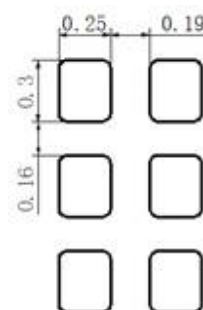
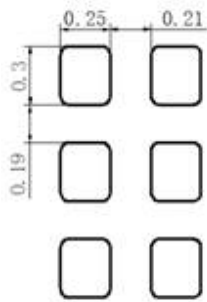

Figure 5: Recommended land pattern (unit: mm)
Figure 6: Recommended stencil opening size (unit: mm)
4. Recommended land pattern of PCB is shown in Figure 5 and recommended stencil opening size is shown in Figure 6.